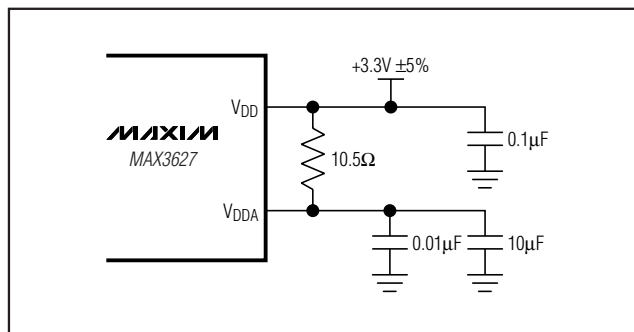

Figure 4. Analog Supply Filtering
- Note 1:** A series resistor of up to 10.5Ω is allowed between V_{DD} and V_{DDA} for filtering supply noise when system power-supply tolerance is $V_{DD} = 3.3V \pm 5\%$. See Figure 4.
The MAX3627 is a mixed analog/digital IC. The PLL contains analog circuitry susceptible to random noise. To take full advantage of on-board filtering and noise attenuation, in addition to excellent on-chip power-supply rejection, this part provides a separate power-supply pin, VDDA, for the VCO circuitry. The purpose of this design technique is to ensure clean input power supply to the VCO circuitry and to improve the overall immunity to power-supply noise. Figure 4 illustrates the recommended power-supply filter network for VDDA. This network requires that the power supply is +3.3V ±5%. Decoupling capacitors should be used on all other supply pins and placed as close as possible to the pins for best performance.